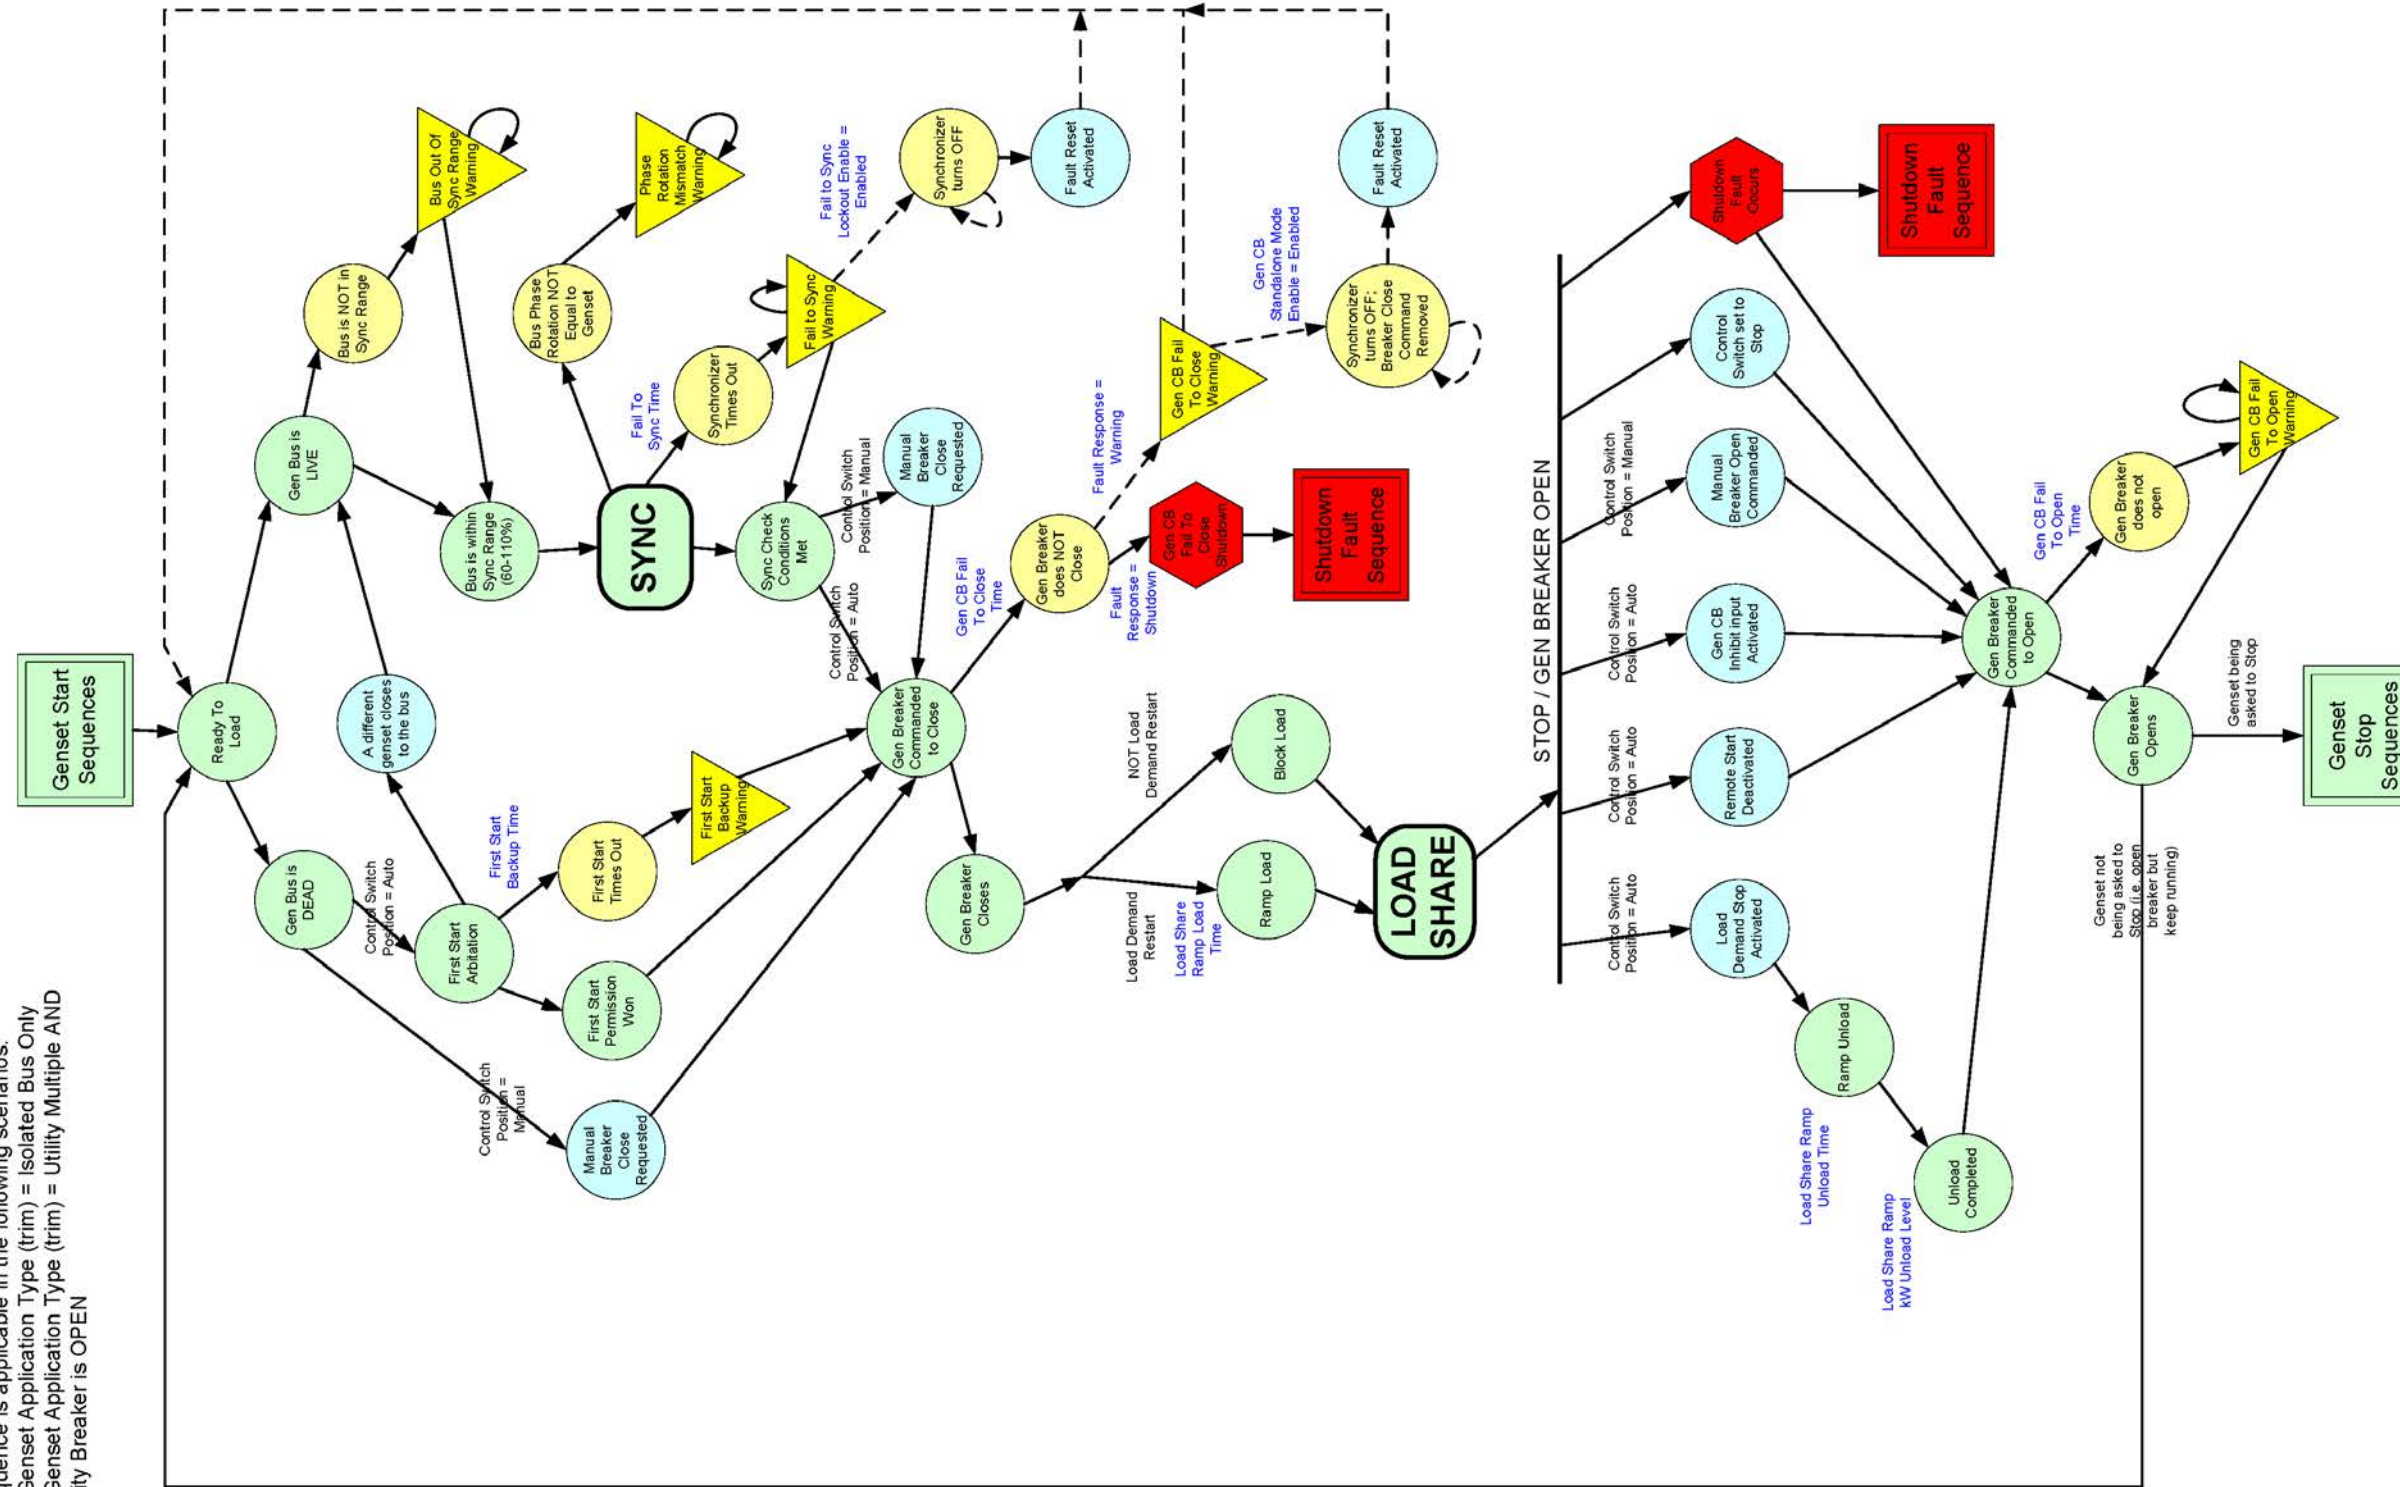

FIGURE 143. ISOLATED BUS ONLY
- Figure 143. Isolated Bus Only 675